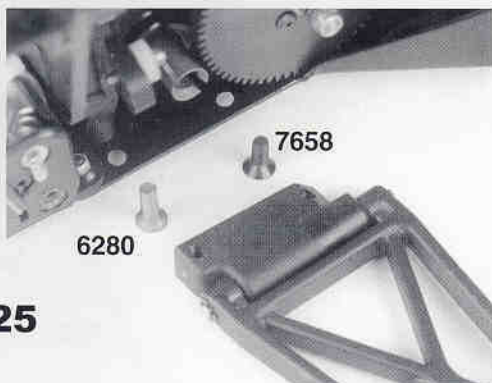
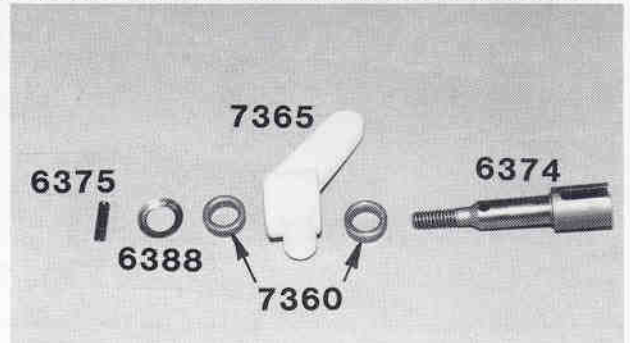

Fig. 125
Fig. 126
□ **Figs. 125 & 126** Remove two #7658 3/8" screws and two #6280 1/2" screws from bag #7-8. Turn the beveled edge of the mount towards the front as shown. Mount your right suspension arm assembly to the chassis using two different screws in the locations shown in fig. 125. Fig. 126 shows the right arm assembly mounted to the chassis. Go ahead and mount the left suspension arm parts.